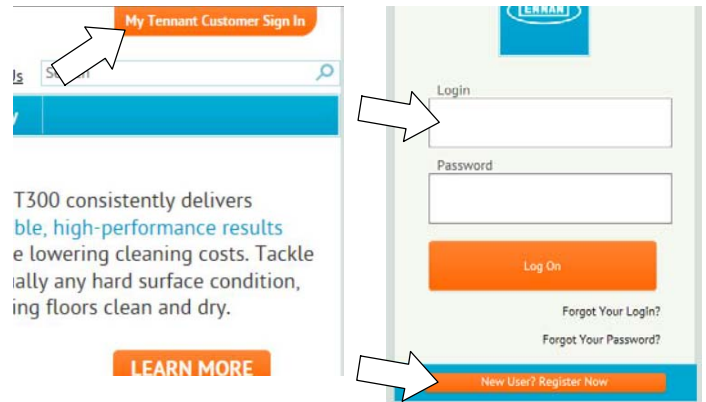

Fig. 16
1. Log in to the “My Tennant” website or register as a new user (Figure 16).